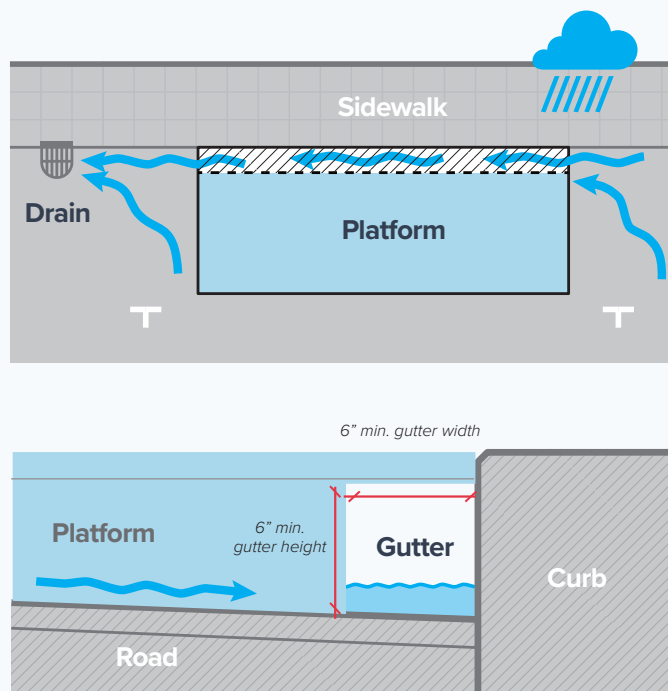

Figure 6
- Drainage:** Platforms should **allow for curbside drainage flow**. A 6 inch x 6 inch minimum clear gutter space must be provided along the entire length of the proposed platform. (see Figure 6)